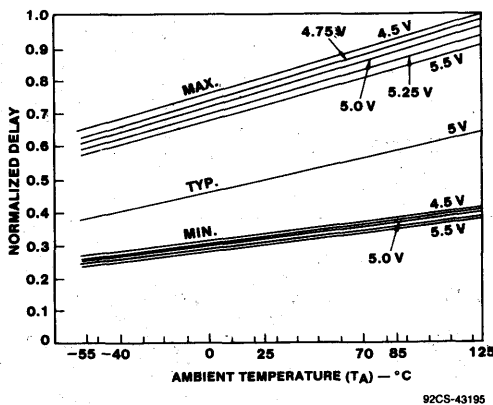

Fig. 27 - Normalized AC/ACT MIN/MAX delay as a function of supply voltage and temperature.
There are two dichotomies: (1) The PCB V_{CC} value is fixed at a given time, probably close to 5.0 volts, and (2) the temperature is fixed at a given time, probably close to 55° C . Thus, the 9.1 to 2.65 nanosecond spread, shown above, is unrealistically large. To ease this problem, Fig. 27 is provided. Using this set of normalized delay curves, the system designer can easily narrow the MIN/MAX delay for use in estimating system timing. For the 74 dual D-type flip-flop if operation is assumed at $V_{CC} = 5.0$ volts, and $T_A = 55^\circ \text{ C}$, the MIN/MAX delay spread is narrower.
Use of Fig. 27 is as follows:
Each AC/ACT data sheet now contains speed limits at two temperature ranges for commercial/industrial plastic packaged product. These ranges are -40° C to $+85^\circ \text{ C}$ and -55° C to $+125^\circ \text{ C}$. The latter temperature range limits are also applicable to MIL product packaged in ceramic packages. Historically, commercial TTL logic types use a limited temperature range for plastic (74 series) of 0° C to $+70^\circ \text{ C}$. To readily determine RCA AC/ACT speed for 0° C to $+70^\circ \text{ C}$ operation, the following multipliers (from Fig. 27) are used:
Also shown in Fig. 27 is the typical curve of speed vs. temperature for $V_{CC} = 5$ volts. The exact value at $T_A = +25^\circ \text{ C}$ is 0.487 X.